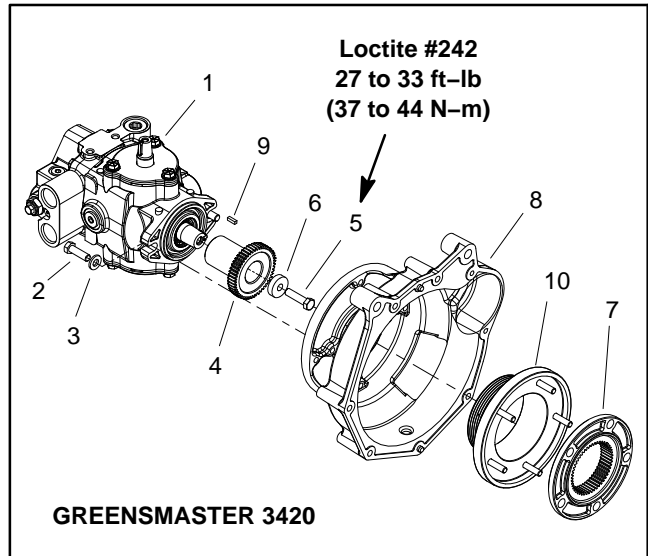

Figure 107
5. Move pump assembly away from bell housing to allow removal of generator belt (Fig. 107):
2. Secure pump assembly to bell housing (Fig. 107):
- B. Secure pump assembly to bell housing with two (2) cap screws and flat washers.